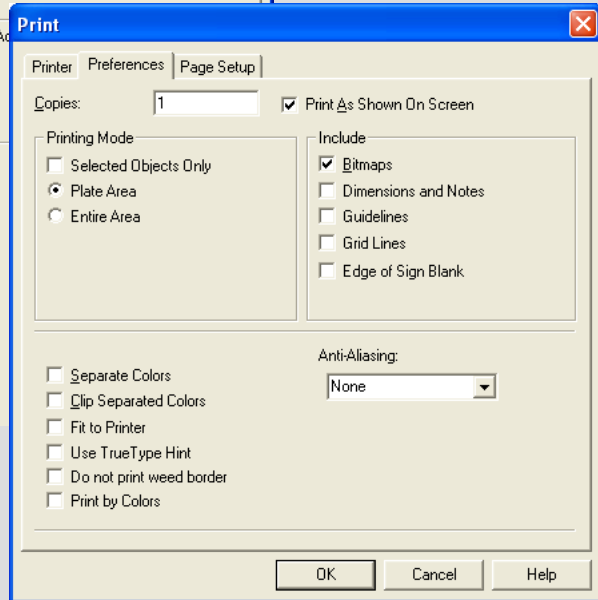

Fig. 20 - The **Preferences** tab is used to choose what workspace elements should be output.
4. Click the **Preferences** tab (Fig. 20).